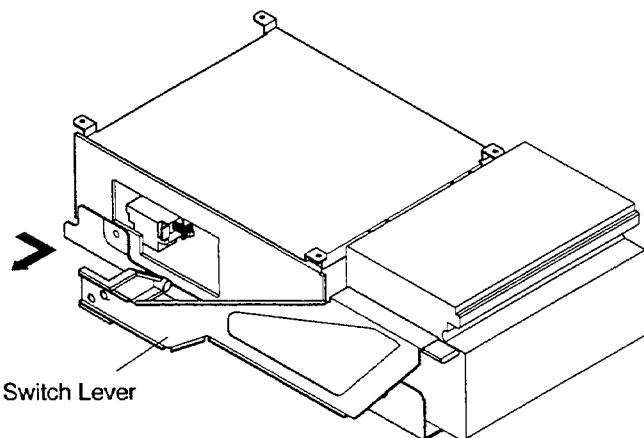

Fig. 4
2. Remove the Switch Lever shown in Fig. 4 in the direction of the arrow.
1. Remove the Top Panel Assy, the Front Panel Unit, the Door, the Switch Lever, the PCB-LED and the PCB-SW. (Fig. 1, Fig. 2, Fig. 4, Fig. 7)
1. Remove the Top Panel Assy, the Front Panel Unit, the Switch Lever, the PCB-LED and the PCB-SW. (Fig. 1, Fig. 4, Fig. 7)
<p>Cleaning of Platen Roller</p>	<p>When the Platen Roller is very dirty print quality may be poor. Clean the platen roller by the following procedure.</p> <ol style="list-style-type: none"> 1. Open the Door or the Set. 2. Check the Platen Roller. If dirt or dust adheres, clean the roller using the blower brush shown in Fig. 4. 3. When the cleaning is finished, check normal print.  <p>Platen Roller</p>  <p>Blower Brush Parts No. 859D048O10</p> <p>Fig. 3</p> <p>Fig. 4</p>